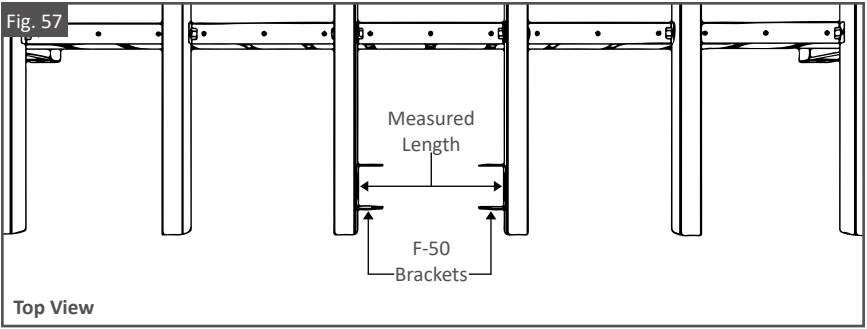

Fig. 58
12. Using Evolution Self-drilling Screws, fasten the F-50 Brackets onto the cut Joist. As shown in Fig. 58. Be sure the top faces of all joists are flush.